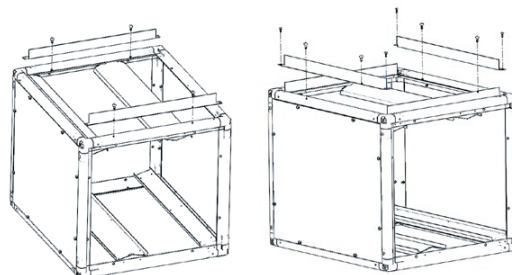

**Fig.7** Mount flanges to inlet and outlet.
4. If desired for installation, mount the flanges to the inlet and outlet. **See Fig. 7**